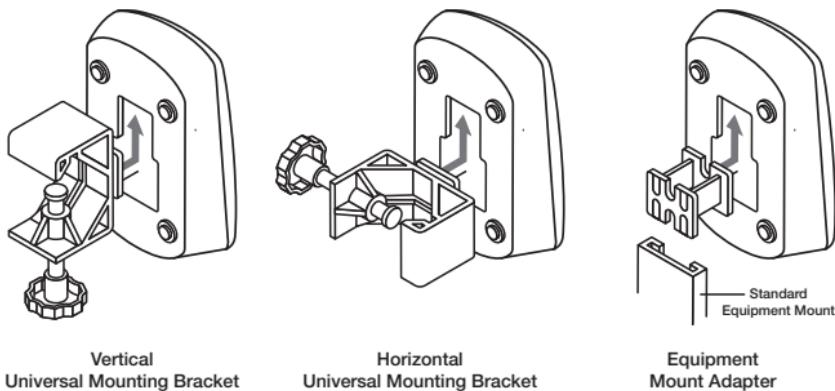

Figure 3. Aerogen Pro-X Controller and universal mounting bracket configurations
7. Use the universal mounting bracket to attach the controller to an IV pole or bed rail in either a vertical or horizontal orientation (Figure 3).
8. Where a standard equipment mount is available, use the equipment mount adapter to support the controller (Figure 3).